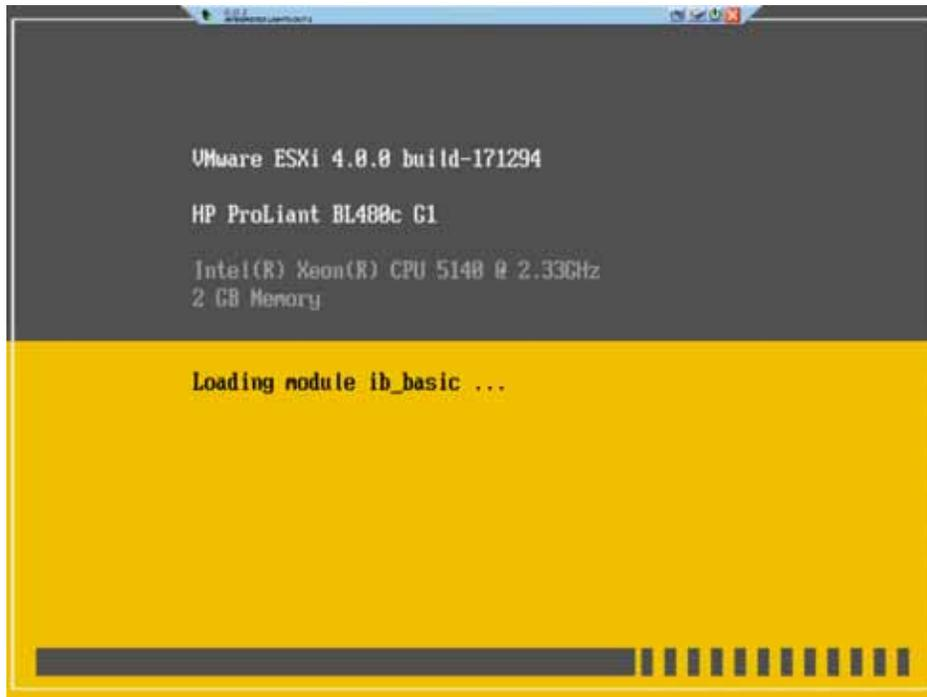

Figure 26 Boot Up
Step 2 After the OS files have been loaded, the server boots to the ESXi 4.1 installer. See Figure 26 on page 58.